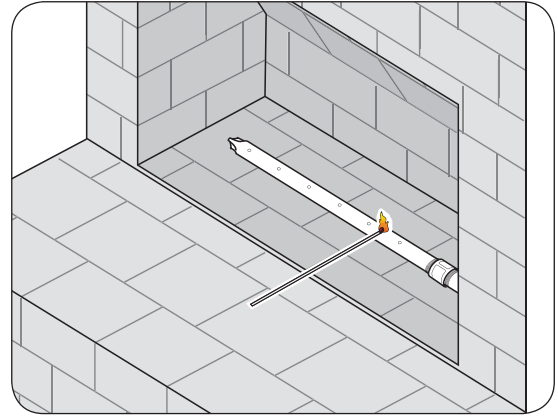

Fig. 4-1 Apply match - then turn on gas
1. Use a long-necked butane lighter, or lay a lighted match next to the burner ports on the log lighter (Fig. 4-1).
4. Wait approximately five (5) minutes to clear out any gas, and repeat steps 1-3 above.